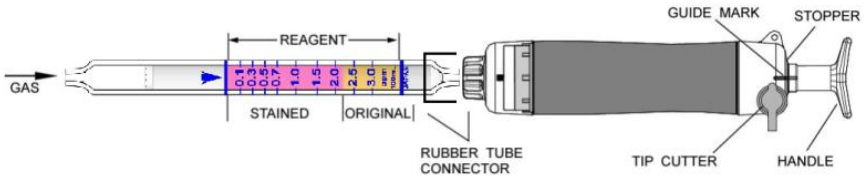

Fig.2
- ① Break both ends of the detector tube.
- ② Insert the detector tube into the aspirating pump securely as shown in Fig.2. (Arrow mark shall point to the pump.)
- ③ Align the guide marks on the shaft and stopper of the aspirating pump.
- ④ Pull the pump handle at a full stroke until it locks and wait for 1 minute or until the completion of sampling is confirmed with the flow indicator of the pump. (See descriptions about the flow indicator in the instruction manual of the pump.)
- ⑤ On completion of sampling, read the scale at the maximum point of the stained layer.
- ⑥ When the concentration is over the scale range, a 1/2 pump stroke can be used to determine concentrations of 0.2 - 6.0 ppm.